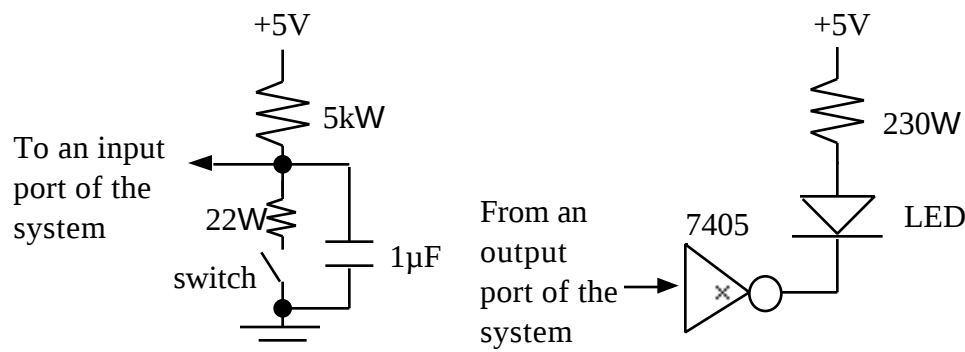

Figure 3.2. Interface of Lights and Switches to the Microcomputer.
- 2) Prepare a wire list with pin numbers for the switches (sensors) and the LEDs (lights). See Fig 3.2 below. Show all connections from the 6812 socket to the breadboard area. The 1 μ F capacitor will debounce the switch and the 22W resistor prevents sparks across the switch. Include a parts list with chip numbers. The 230W resistor value was calculated using the following equation